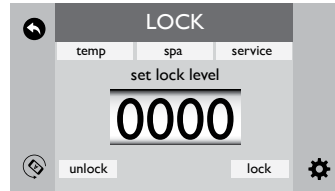

Figure 12.7c
1. Tap **Temp** to lock the temperature feature, Figure 12.7c.
1. Tap **Spa** to lock the spa, Figure 12.7c.
1. Tap **Service** to lock the spa, Figure 12.7c.
D. To Unlock (Figure 12.7c):